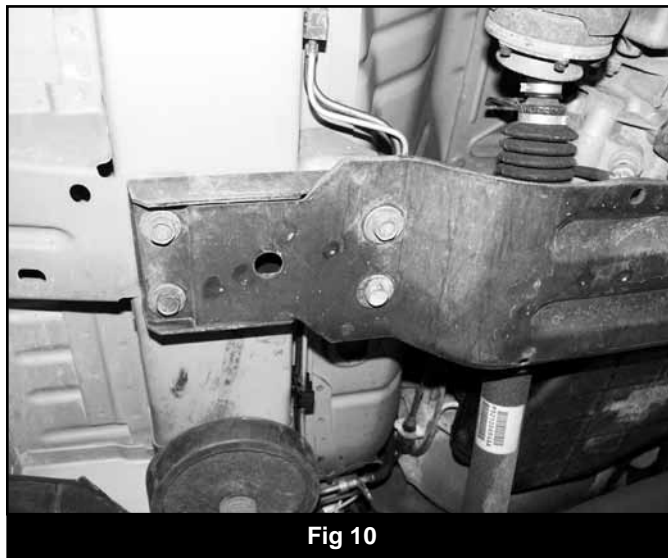

Fig 10
2. Loosen but do not remove all eight transmission crossmember bolts (Fig 10).